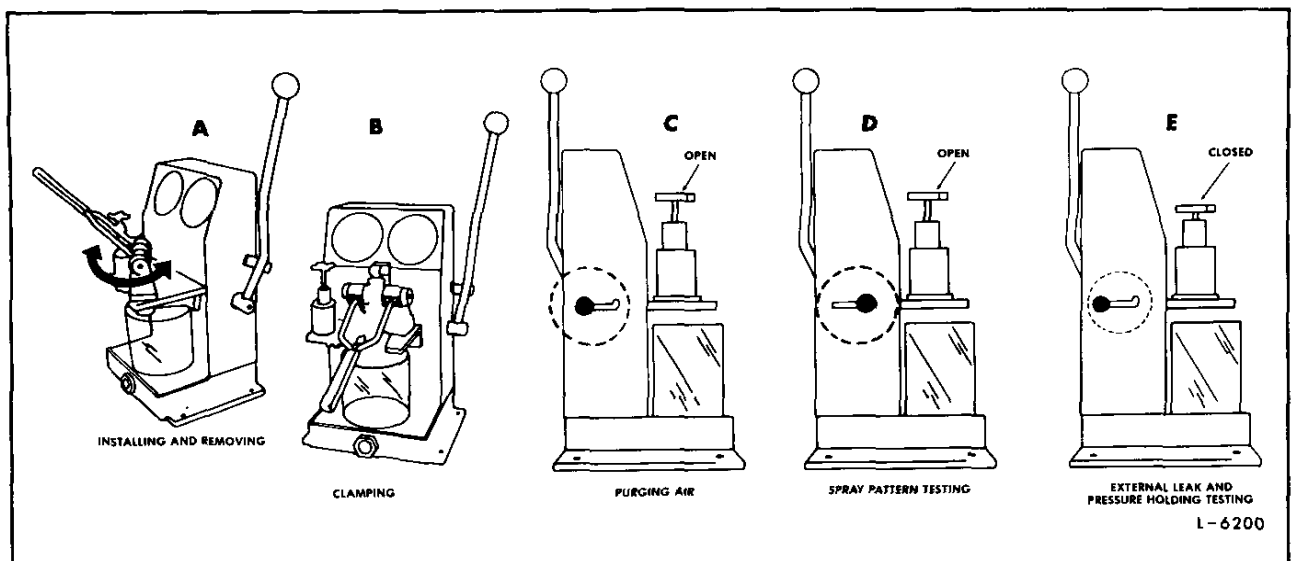

Fig. 10 - Pop-N-Fixture (J 29531) Control Positions
1. Swing out the injector holder and raise the injector clamp lever (see Fig. 10-A).
4. Swing the injector holder into the test position. (see Fig. 10-B).
3. Move the rocker arm engaging lever to the rear detent as shown (Fig. 10-C).
3. Move the rocker arm engaging lever to the forward detent as shown (see Fig. 10-D).
1. Place pump lever in the vertical position. Move the rocker arm engaging lever to the rear detent position as shown (Fig. 10-E).
2. Close the Thru-Flow valve, but do not overtighten (Fig. 10-E).
2. Swing out the injector holder (Fig. 10-A).
5. Move the rocker arm engagement lever to the rear position as in Fig. 10-C.